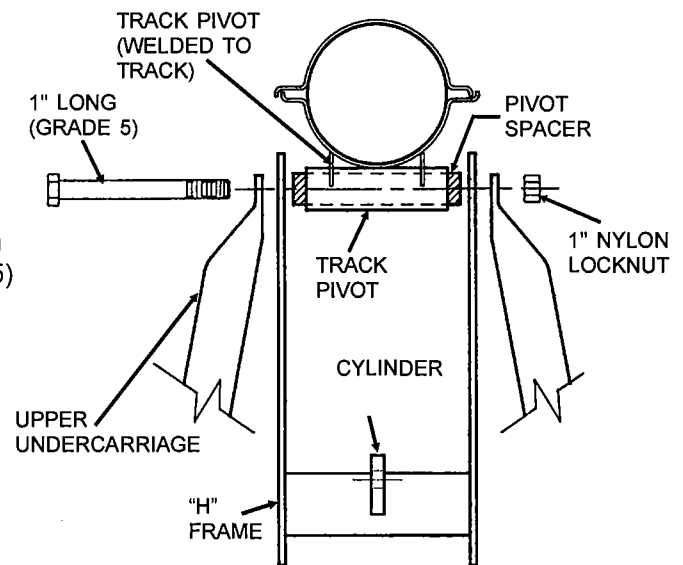

FIG. 49
- Step 25. Lift the upper undercarriage frame legs and bolt the "H" frame and upper legs to the track pivot using a 1" x 11" long (grade 5) hex head capscrew and nylon locknut on 52' & 62' models or 1" x 12" long (grade 5) hex head capscrew and nylon locknut on 72' models. See Fig. 49.